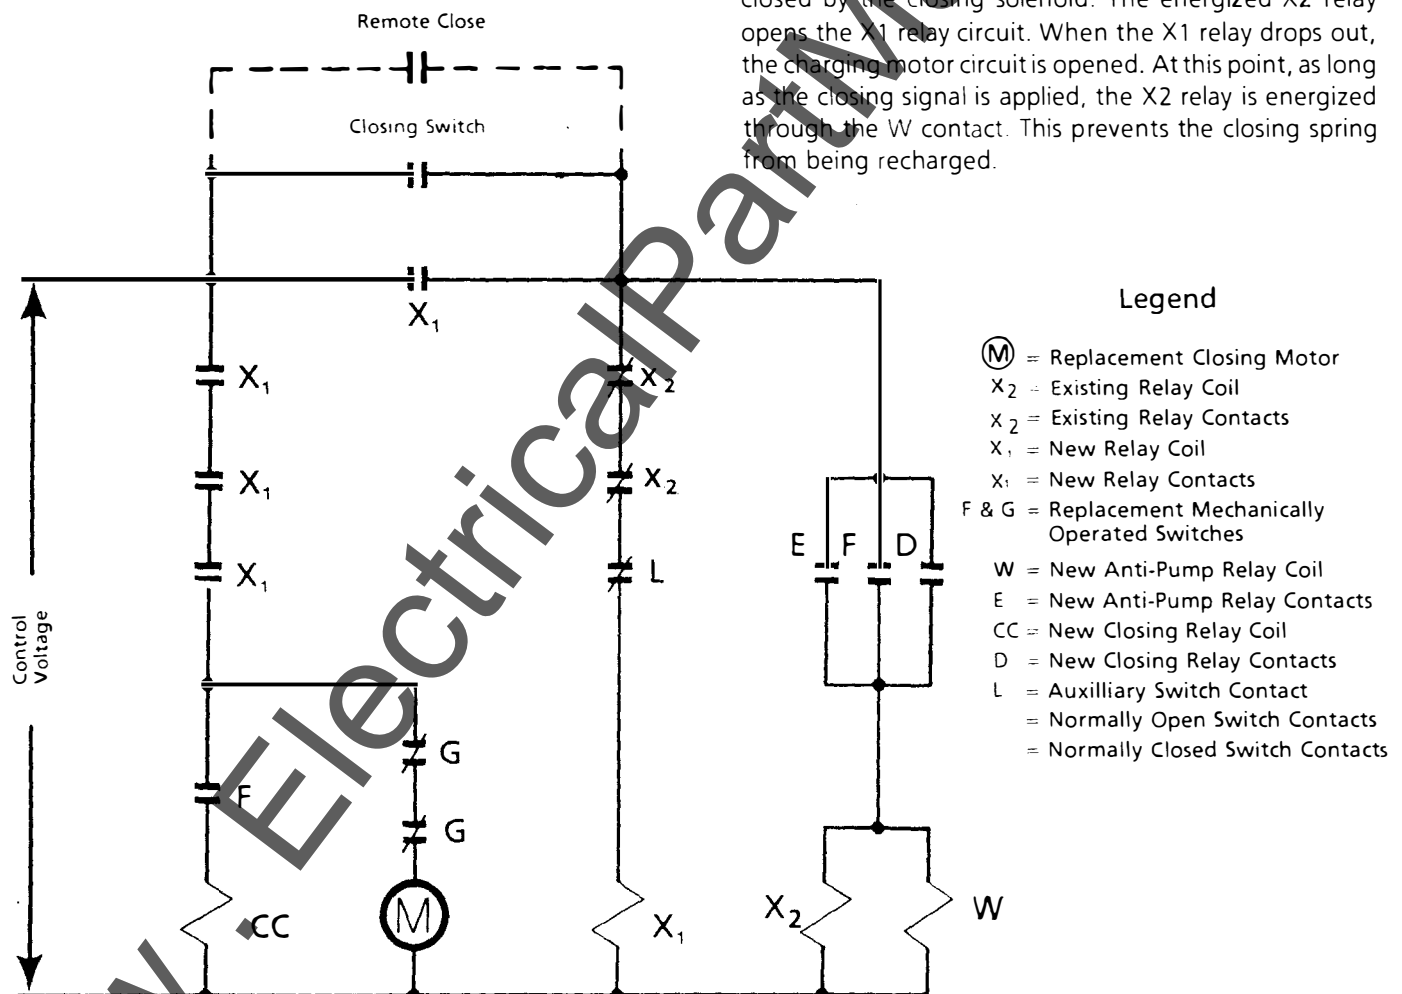

Fig. 15 — New control diagram for standard close breaker with replacement motor operator
1. Fig. 1 in GEK 7303 shows the existing control diagram. This circuit must be converted to the control circuit shown in Fig. 15. Wire terminals, splicing terminals, and wire are provided for this conversion.
5. The operation of this circuit is given below, refer to Fig. 15: